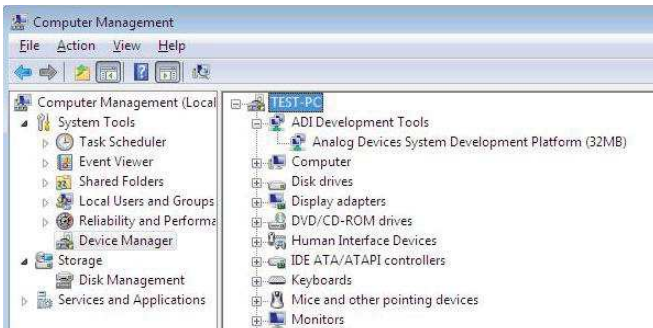

Figure 12. Device Manager
- Access the **Device Manager** by right clicking **My Computer**, then **Manage**. A dialog box appears asking for permission to allow the program to make changes to the PC. Click **Yes**. The **Computer Management** box appears. Click **Device Manager** from the list of **System Tools** (see Figure 12).